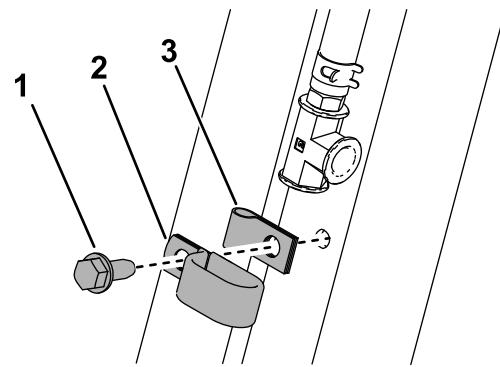

**Figure 7**
1. Install the fuel vent tube to the left side of the roll bar using the small R-clamp and bolt (1/4 x 5/8 inch) as shown in Figure 7. Torque the bolt to 1017 to 1243 N·cm (90 to 110 in-lb).
2. Install a hose (3 inch) to the fuel vent tube using a hose clamp (1/2 inch) as shown in Figure 7.
3. Connect the hose to the tee fitting using a straight fitting and hose clamp (1/2 inch) as shown in Figure 7.